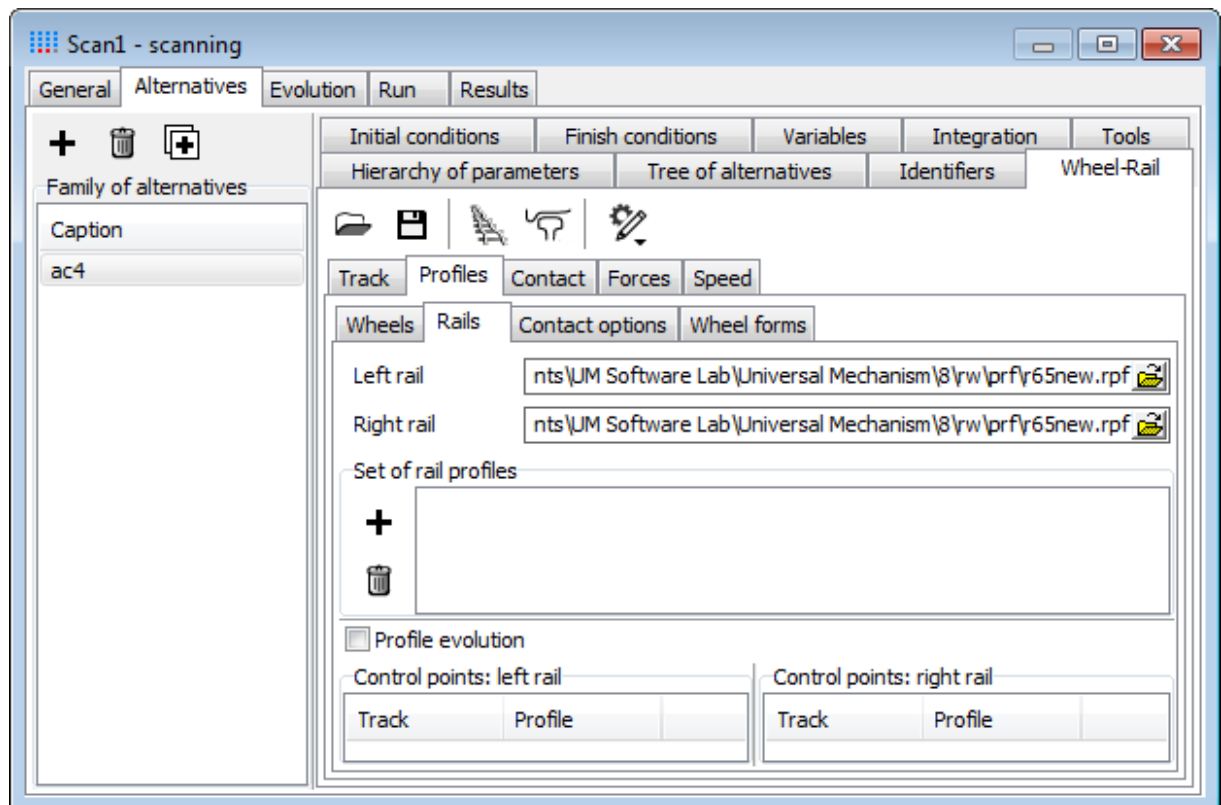
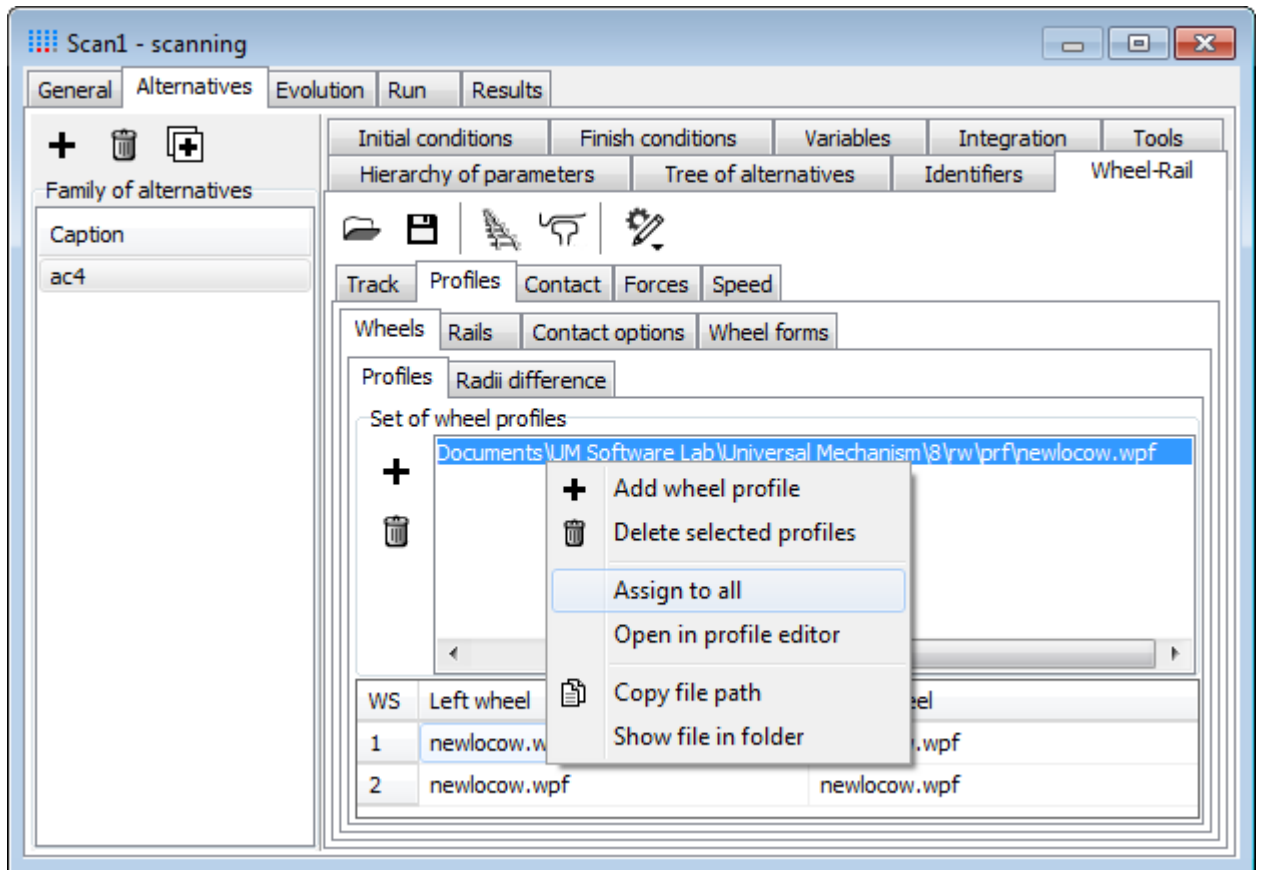

Figure 3.10. Rail profiles
Figure 3.11. Wheel profiles
6. Load rail profiles from the **r65new.rpf** file, and set **newlocow.wpf** profile for all wheels, see Figure 3.10 and Figure 3.11.